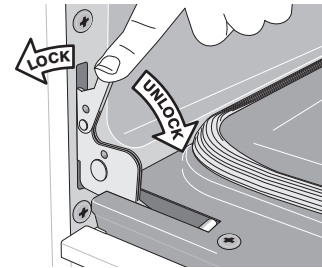

Figure 29: Door hinge locks
1. Open oven door completely, horizontal with floor (See Figure 29).
3. Fully open the oven door, horizontal with floor (See Figure 29).